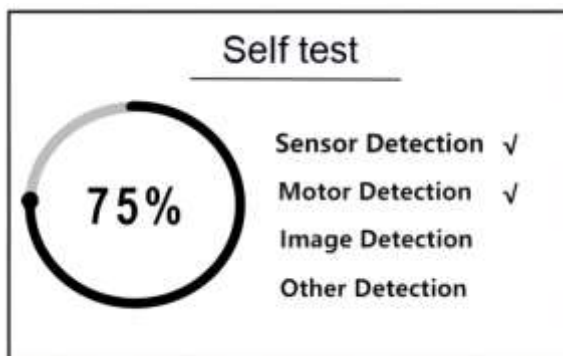
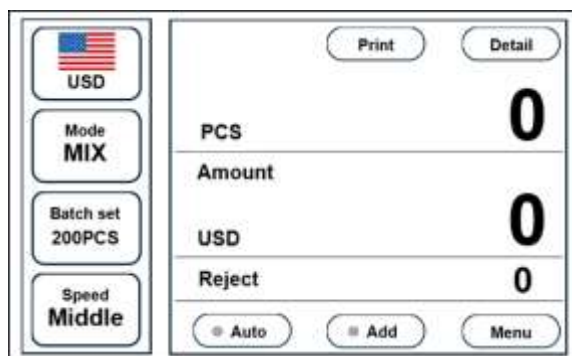

Figure 5
Figure 6
- 2) Connect the machine to the power supply and turn on the power switch, first the machine enters the loading interface, after loading is completed, the machine enters the self-test interface, as shown in Figure 5. After successful self-test, the machine enters the main interface, this process takes about 30 seconds, as shown in Figure 6 below: